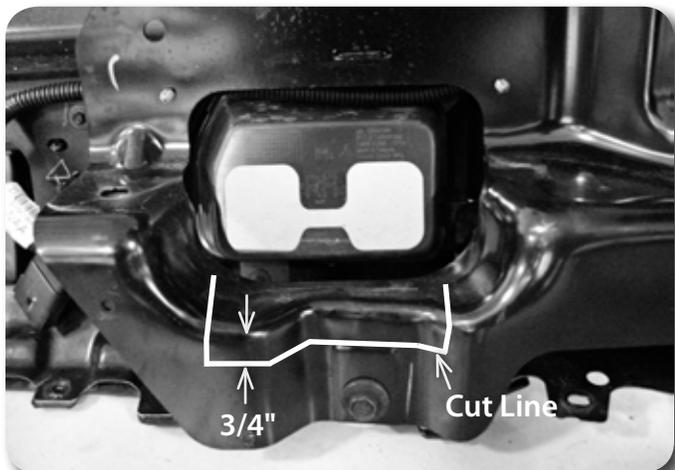

Figure 15
24. The front bumper mounts will also need to be modified. Make a cut mark $3/4$ " below the edge of the bracket as shown. **Figure 15** Finish the cut line by going straight up to the original opening in the bracket. Cut at the marks with a cut off wheel or reciprocating saw.